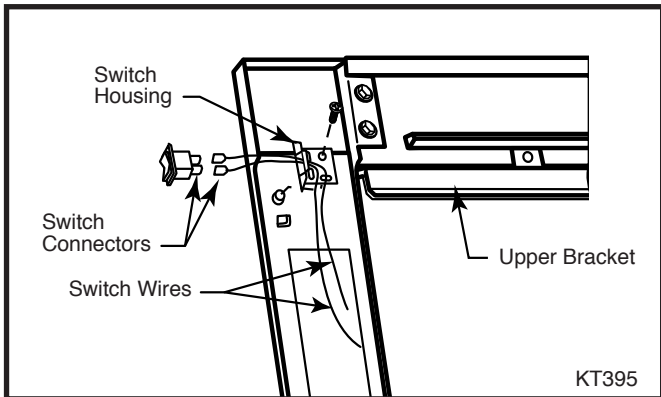

Fig. 4 ('C' Series units only) Attach the switch housing and the switch. The housing can be attached to either column.
5. For 'C' series units, choose which side of the surround should have the ON/OFF switch, and attach the switch housing to the back of that column with one (1) 1/4-20 x 3/8" phillips pan head screw. (Fig. 4)
1. For 'C' series units, attach the switch wires to the valve. The wires attach to the 'TH/TP' and the 'TH' terminals (the top and bottom terminals) on the valve. Bring the wires to the side of the firebox. If the switch housing is on the left side of the surround, bring the wires to the left side of the firebox. Bring the wires up through the bottom of the switch housing, and out through the side. (Fig. 4) Attach the wires to the switch by pressing the wire connectors onto the prongs of the switch. Press-fit the switch into the housing. (Fig. 4)